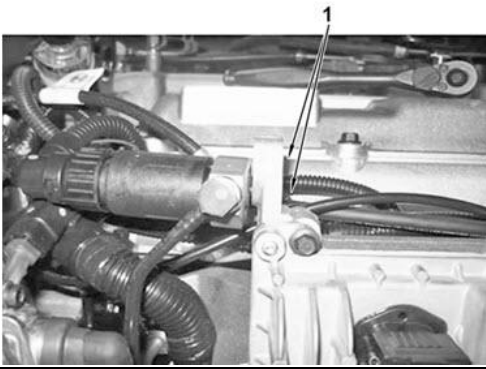

**Figure 17**
20. Remove tape and reconnect cold start relay connector (Figure 17, Item 1).
21. Tug on connector to verify it is secure (Figure 17, Item 1).